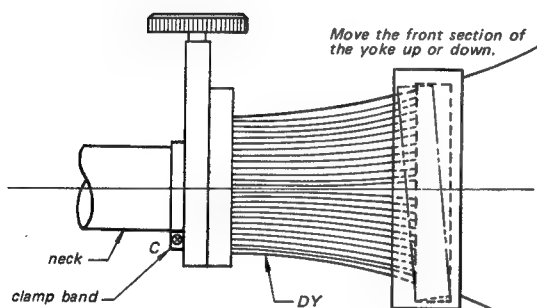

Fig. 3-16.
2. Loosen the clamp band labeled C in Fig. 3-16.